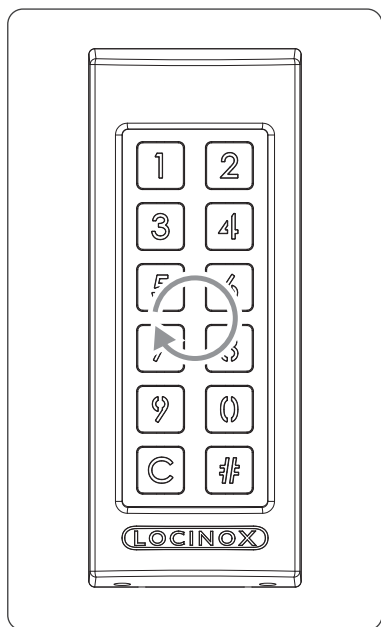

Figure 5.1 - Waiting light sequence
- After power-up, the waiting light sequence (see figure 5.1) will be shown. After a few seconds, [1] will start flashing on the keypad, and [#] will be permanently lit. On the SwitchStone-STD all lights except the power light will be flashing.